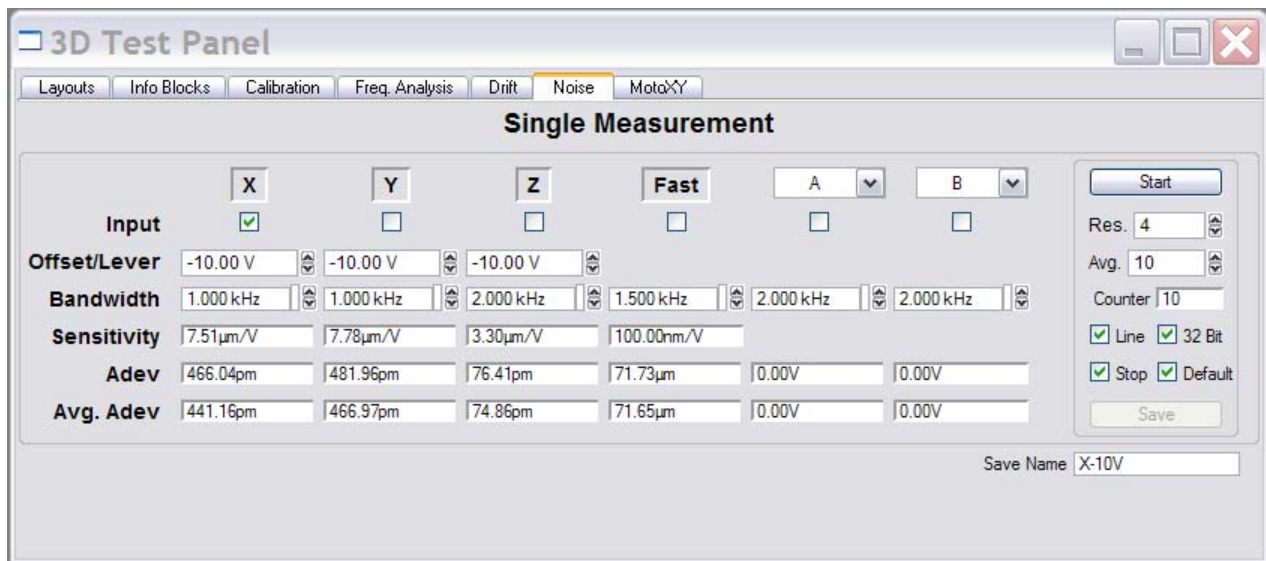

Figure 16.1.2: Noise tab in the 3D test Panel: monitor LVDT and Fast ADC noise here.
This will bring up the 3D Test Panel (Figure 16.1.2). This panel consists of seven tabs for various measurements, many of which will not be described herein.
✓ Open the *Noise* tab (Figure 16.1.2).
✓ To measure if the LVDT noise is within factory specification, activate the desired axis 'Input' checkbox. In Figure 16.1.2, the X axis input is selected. ***AR Factory specifications are collected at 1 kHz bandwidth.***
- The Resolution and Averaged number of spectra can be adjusted in the respective setvars under the 'Start' button (Figure 16.1.2).
✓ Check the box below the Fast column (Figure 16.1.2).